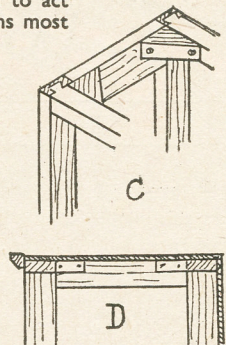

Fig. 3—The top of the cabinet
Now cover the top of the cabinet with the plywood, nailing and gluing it down evenly all over, and cover the cut edges and sides and front, either with a small moulding to form a modest cornice, or just a strip of wood, planed to a bevelled edge, as in the detail, Fig. 3 (D).